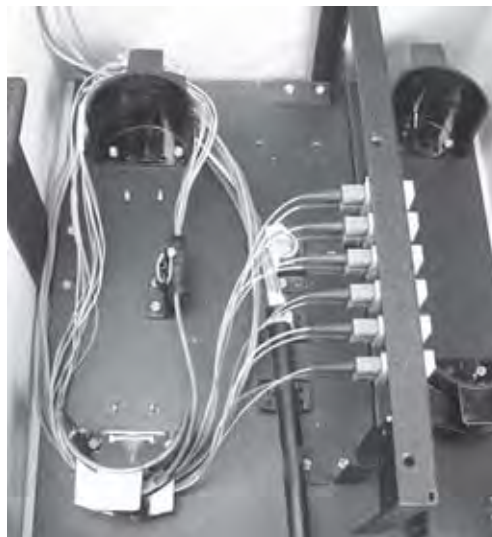

Figure 25
**12.6** Route the connectorized fan-out tubing around the guides and plug connectors into the connector panel (Figure 25). Refer to the previous connector care caution to avoid damaging the connectors during installation.